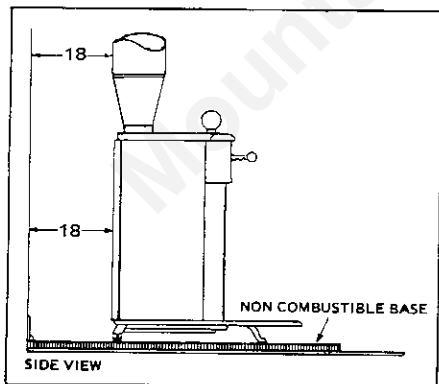

FIG. 1
2. Locate the final position of your fireplace and refer to Figs. 1, 2 and 3 for clearances which must be observed for safe operation of the fireplace. If floor is combustible, a non-combustible base (2" patio slabs or bricks are suggested) must be used. Set non-combustible base so it completely covers the area under the fireplace and extends a minimum of 16" in front and 8" from each side of the fire box opening.